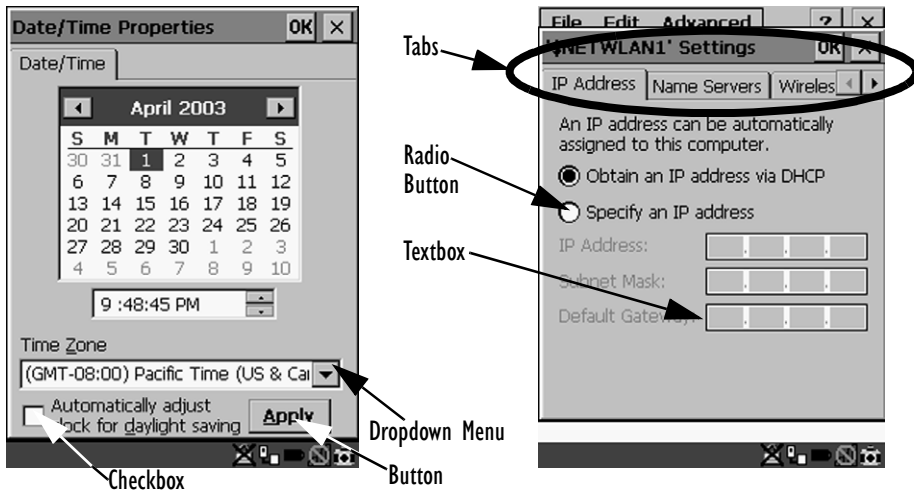

Figure 4.16 Dialog Boxes
A dialog box (like the samples in Figure 4.16) appears when you need to make selections and enter further information.
**Radio buttons:** These buttons allow you to choose from a number of options. For example, in the sample screen in Figure 4.16 on page 83 you can choose to *Obtain an IP address via DHCP* or *Specify an IP address*. Press the <TAB> key to highlight a radio button option, and then select a radio button by pressing the arrow keys to highlight the appropriate option.